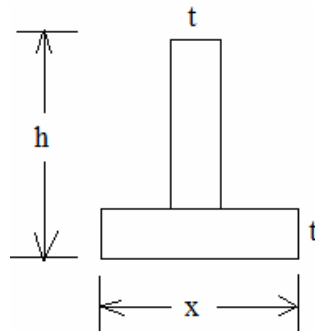

Fig.2
- b) Find the width 'x' of the flange of a cast iron beam having the section shown in Fig.2, so that the maximum compressive stress is three times the maximum tensile stress the member being in pure bending subjected to sagging moment. The depth 'h' of the beam is 100mm, the thickness 't' of the web and flange is 25mm. [7+8]